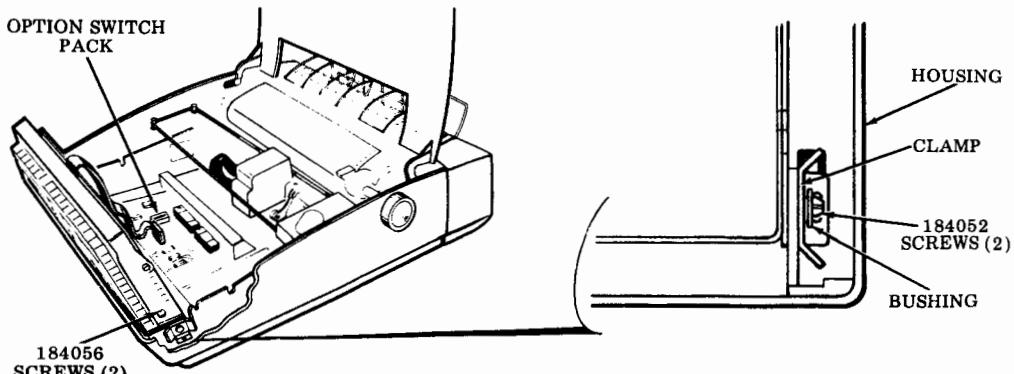

Fig. 3 — Option Switch Access
- 3.03 Loosen the two 184056 screws (one each side) on the side frames securing the operator console in place (Fig. 3):
- 3.04 Loosen the two 184052 bushing clamp screws (one each side) and gently lift the rear edge of the operator console assembly, pivoting it forward on the front mounting pins (Fig. 3).
- 3.05 Locate the option switch pack SPD4 (Fig. 3) on the logic circuit card and activate the option switches in 4. ENGINEERING OPTIONS, as required by local engineering.